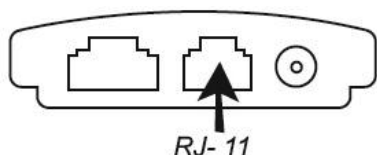

Fig. 47
2. Connect the RS-232 cable to the RJ-11 connector on the bottom of the hand control, shown in **Fig. 47**, and to a serial communication COM port on your computer.